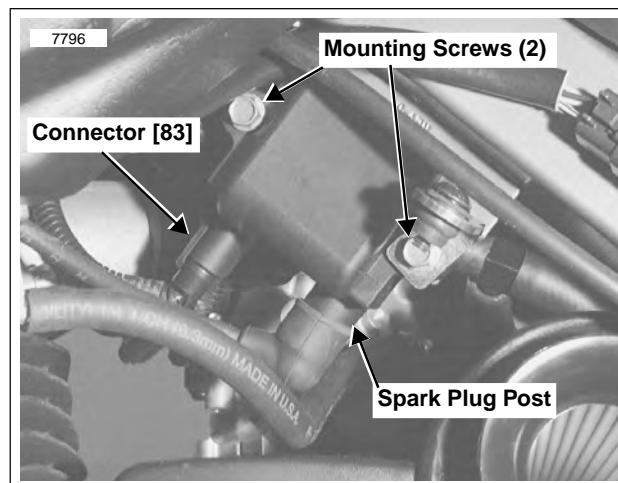

Figure 7-24. Ignition Coil (Left Side)
See Figure 7-24. The ignition coil is mounted on the frame underneath the fuel tank on left side above airbox.
5. See Figure 7-24. Disconnect spark plug cable from coil plug post.
1. See Figure 7-24. Apply LOCTITE THREADLOCKER 243 (Blue) to threads of two mounting screws.
2. Attach coil to frame with screws and washers (1). Tighten to 4-6 ft-lbs (5.4-8 Nm).